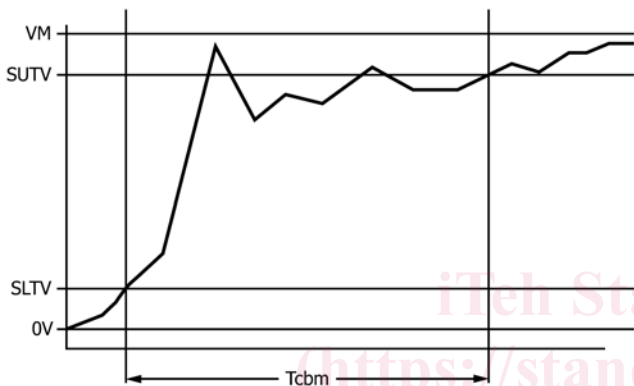

FIG. 2 Contact Bounce on Switch Make
it constantly remains above the SUTV after the last instant it falls below the SLTV. If V_M does not fall below SLTV during the time interval, $T_{CBM} = 0$, (see Fig. 2).
7.2.2 Record T_{CBM} (see Fig. 2) from oscilloscope display.